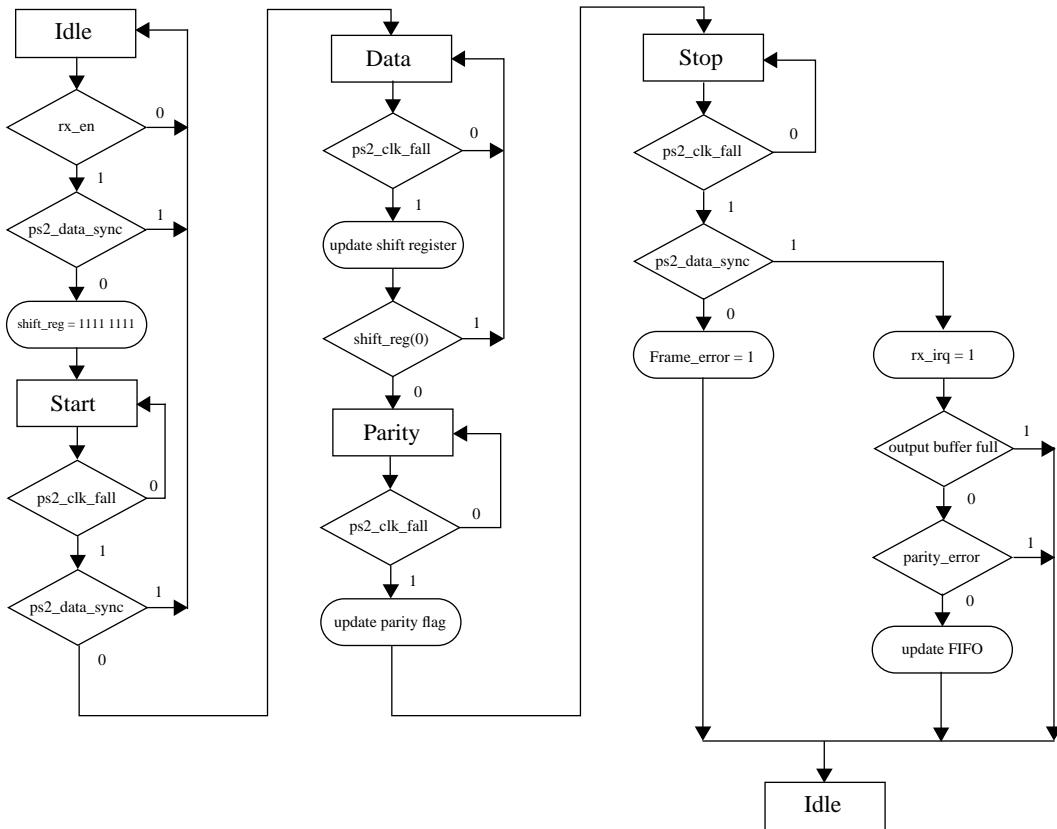

Figure 21. Flow chart for the receiver state machine
The receiver of APBPS2 receives the data from the keyboard or mouse, and converts it to 8-bit data frames to be read out via the APB bus. It is enabled through the receiver enable (RE) bit in the PS/2 control register. If a parity error or framing error occurs, the data frame will be discarded. Correctly received data will be transferred to a 16 byte FIFO. The data ready (DR) bit in the PS/2 status register will be set, and retained as long as the FIFO contains at least one data frame. When the FIFO is full, the receiver buffer full (RF) bit in the status register is set. The keyboard will be inhibited and buffer data until the FIFO gets read again. Interrupt is sent when a correct stop bit is received then it's up to the software to handle any resend operations if the parity bit is wrong. Figure 21 shows a flow chart for the operations of the receiver state machine.